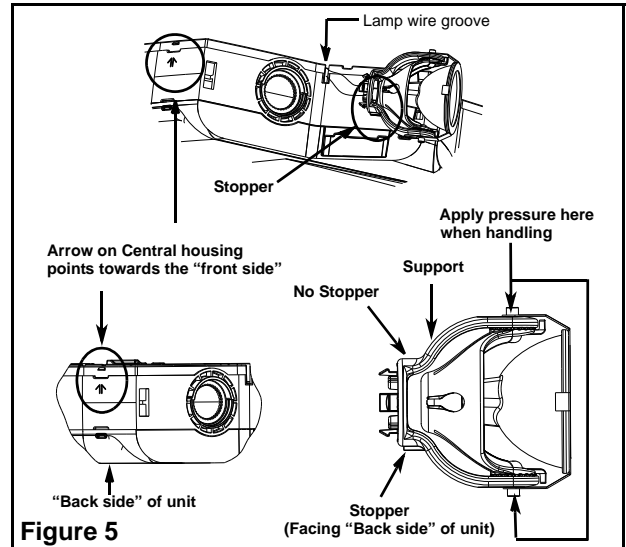

Figure 5
- Remove lenses (see fig. 6) and discard plastic bags. Install lamps as shown in figure 5. Adjust the lamps in appropriate position. Re-install both lenses.
- Align and snap in place with "stopper" oriented per Figure 5.
- Handle assemblies by applying pressure on either end of the support per Figure 5.